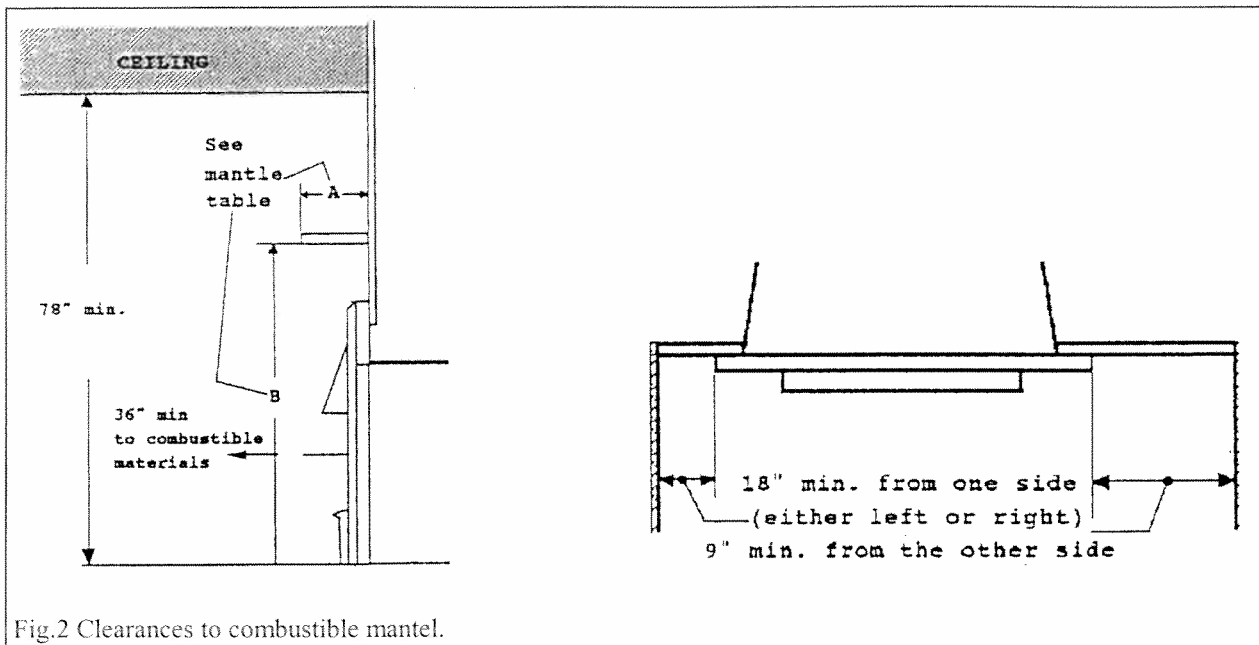

Fig.2 Clearances to combustible mantel.
**To enable the heater to be installed correctly the height of the finished hearth must be known before installing this kit, please note that the bottom of the kit must be installed at the planned finished hearth height (including tile etc.). For approved clearances to mantles, etc. see fig.2.**